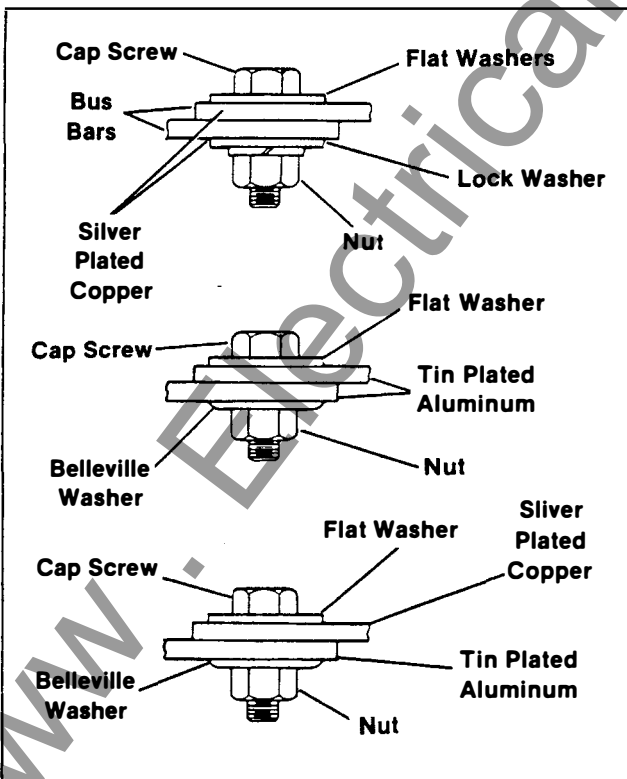

Figure 24. Method of Bolting Bus Bar Joints
4. For method of bolting joints see figure 24.
Tighten 1/2-13" steel screws to within torque range of 50-75 ft. lb. (67.8 to 101.7 N·m) and silicon bronze screws to within torque range of 30-40 ft. lb. (40.7 to 54.2 N·m). Arrange the hardware as shown in figure 24 with a flat washer on each side of the joint and a lockwasher between the flat washer and the nut. The only exception to this arrangement occurs when aluminum bus is used. In this case, one Belleville spring washer replaces the flat washer and lockwasher under the nut. The concave side of the Belleville spring washer is placed against the bus joint. These washers ensure an evenly distributed force about each screw and produce a low resistance joint. The torque values, noted above, produce a joint of adequate pressure without cold flow.